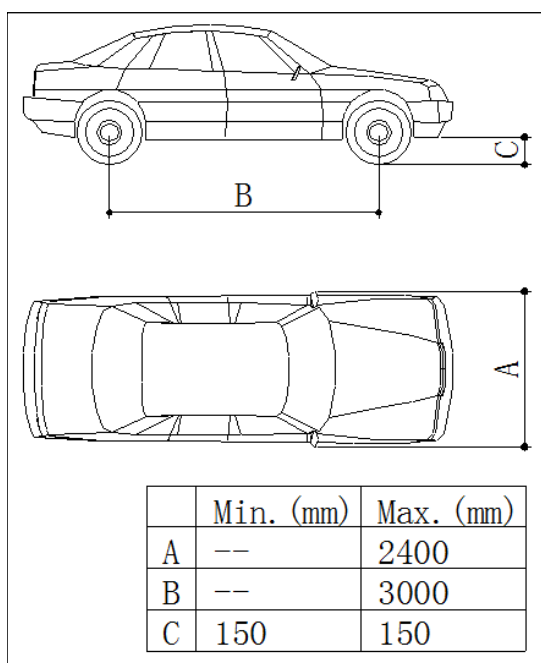
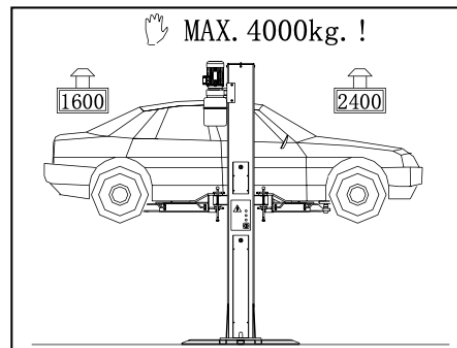

Fig. 8
Fig. 9 Weight Distribution
During lift and descent movements, the operator must remain in the command station as defined in figure 8. The
- ◆ Only authorized vehicle (Fig. 8 & Fig. 9) are raised without exceeding the rate capacity and overall dimensions.